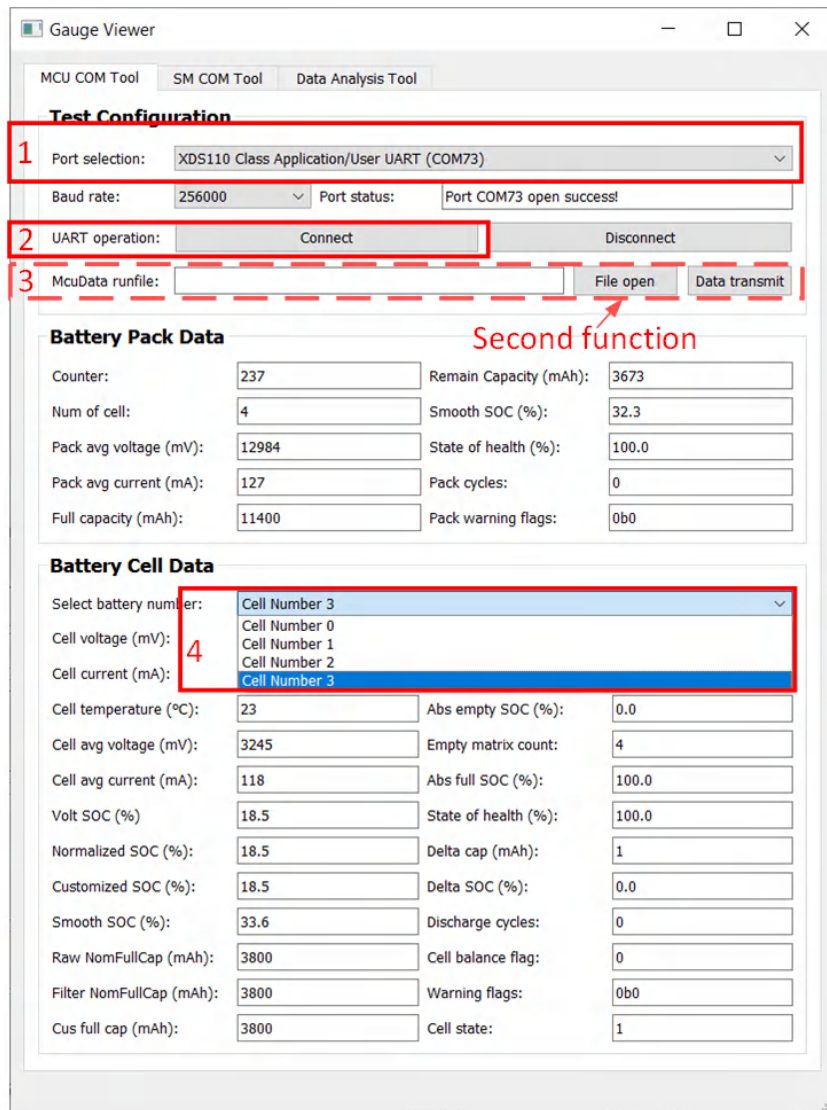

Figure 3-2. MCU COM Tool Functions
The MCU COM Tool, shown in Figure 3-2, will be commonly used by end users. It has two functions:
- The default function is to receive the battery running data from MCU. The default shown data is pack data and cell 1 data. If cell number above 1, you can choose the wanted number following the steps in Figure 3-2. The data is saved automatically in excel with a name “time-McuData.xlsx”, after the test is finished or you stop the test.